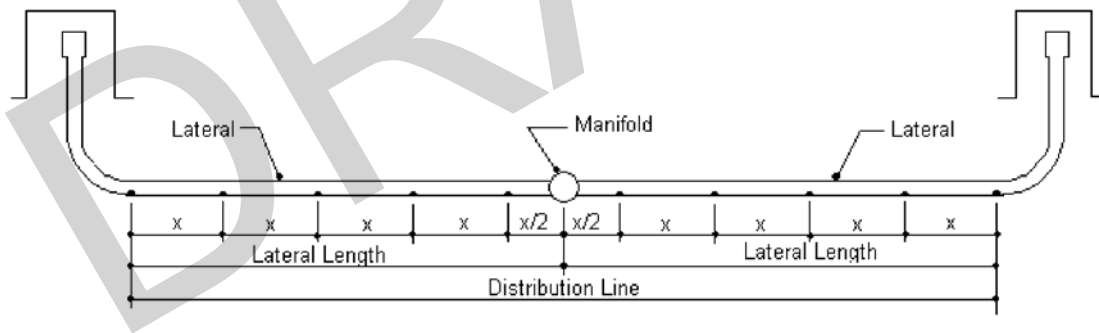

**Figure 2 – Number of Orifices in a Lateral**
4. Determine number of orifices in a lateral. How many orifices should be drilled in a lateral depends on the type of system, area allowed per orifice, and the design loading rate of the distribution cell. The number of orifices is determined by using the following equation. See Figure 2.